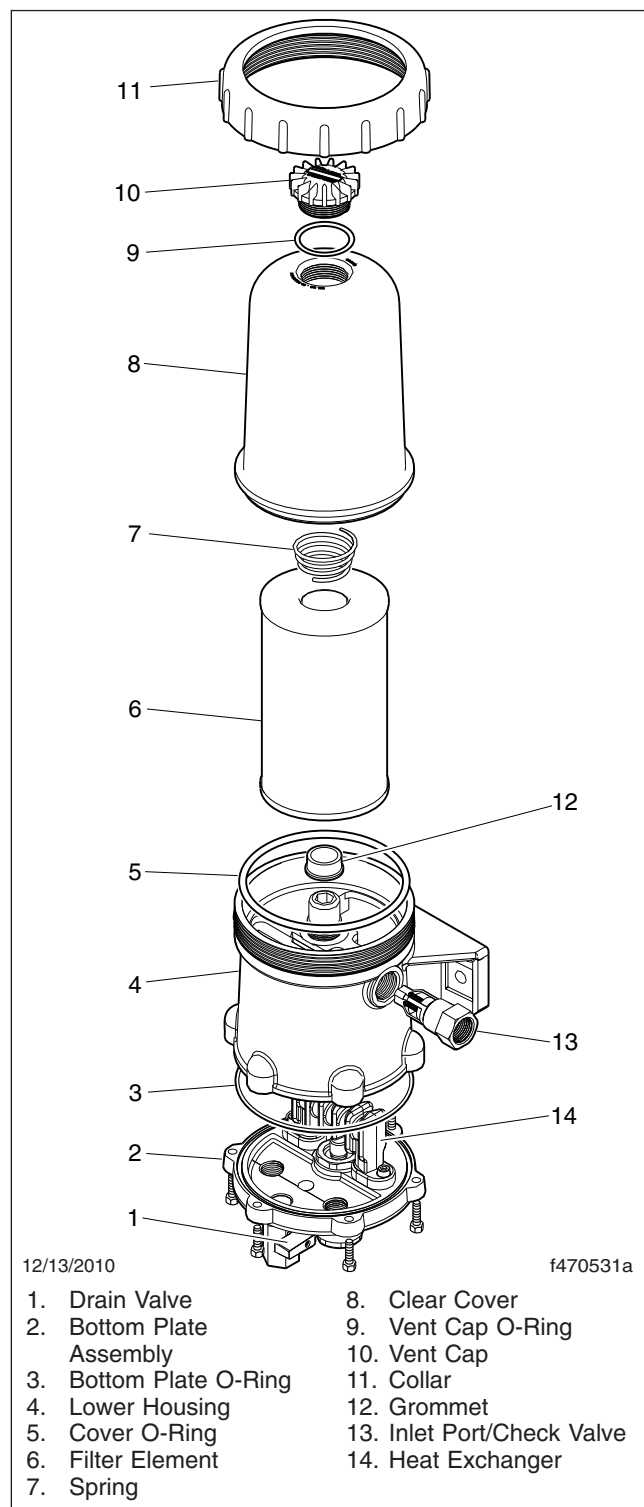

Fig. 2, DAVCO Fuel Pro 382
4. Remove the vent cap, shown in Fig. 2, Item 10, and open the drain valve, shown in Fig. 2, Item 1, to drain the fuel completely, then close the drain valve.
6. Remove the filter, cover O-ring, and vent cap O-ring. Dispose of them in an environmentally acceptable manner. See Fig. 2 or Fig. 4.